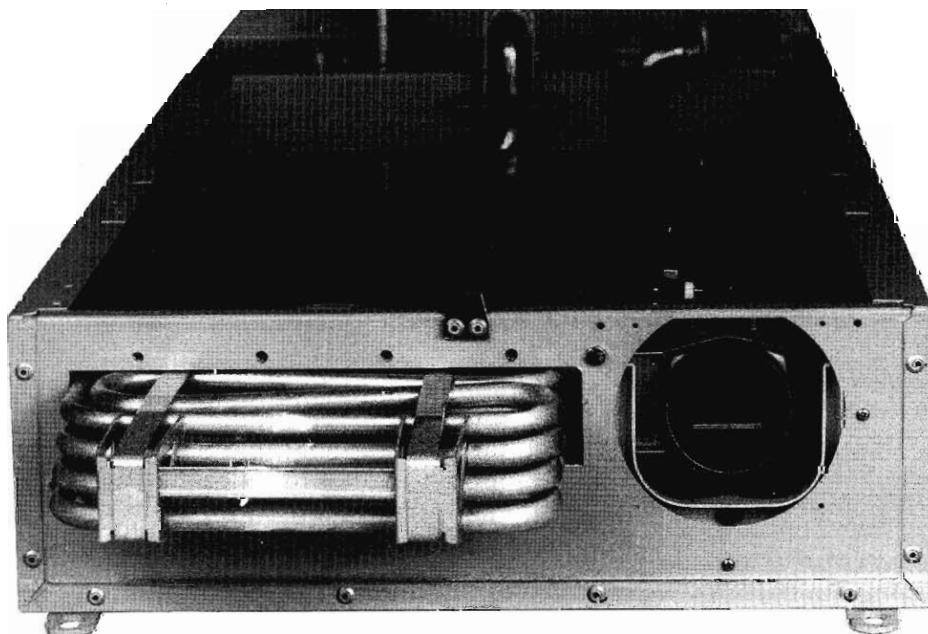

Figure 32
- 23.13.** Unscrew the 8 screws fixing the plate on the top of the boiler (Figure 32).